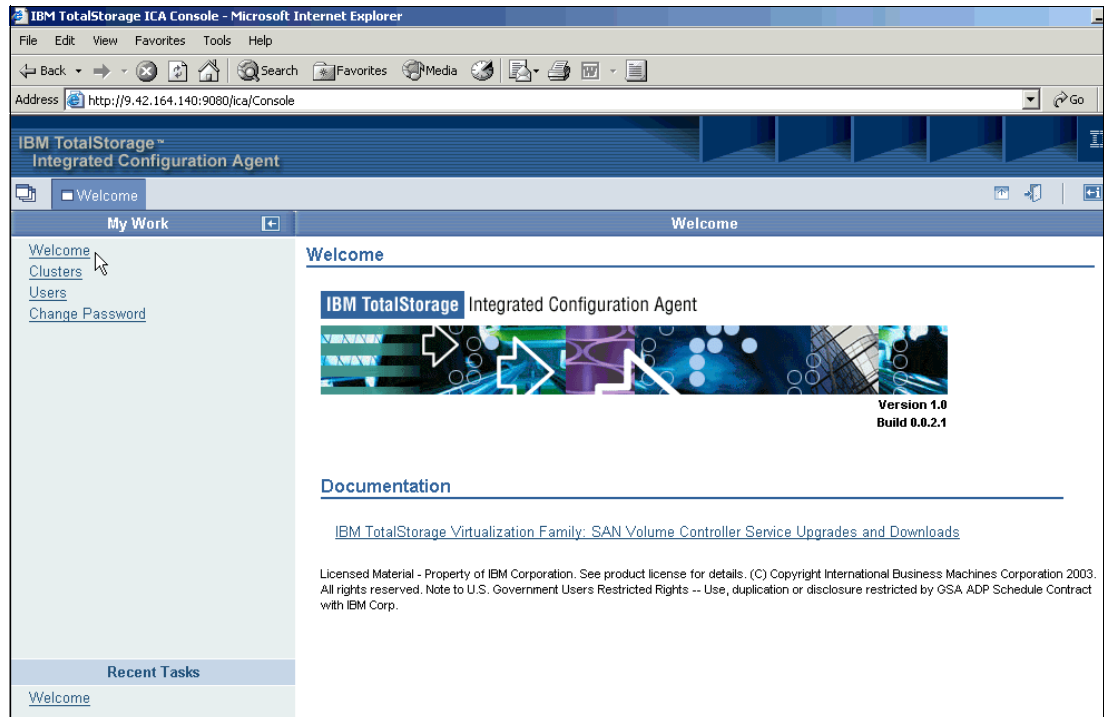

Figure 6-8 GUI Welcome page
3. You see the GUI Welcome page as shown in Figure 6-8. This page has several links: My Work (top left), a Recent Tasks list (bottom left), the GUI version and build level information (right, under the graphic), and a hypertext link to the SVC download page: